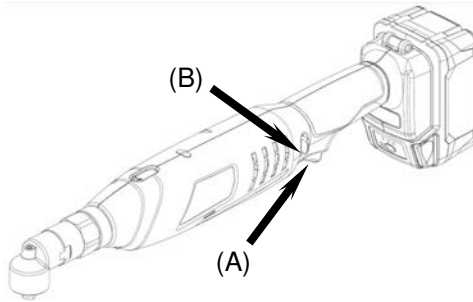

Fig. 7
To select forward rotation, RELEASE THE SWITCH (A) (see Fig. 7), and push the forward/reverse lever (B) (see Fig. 7) toward left side of the tool . ◀
To select reverse rotation, RELEASE THE SWITCH (A) (see Fig.7), and push the forward/reverse lever (B) (see Fig.7) toward right side of the tool . ▶